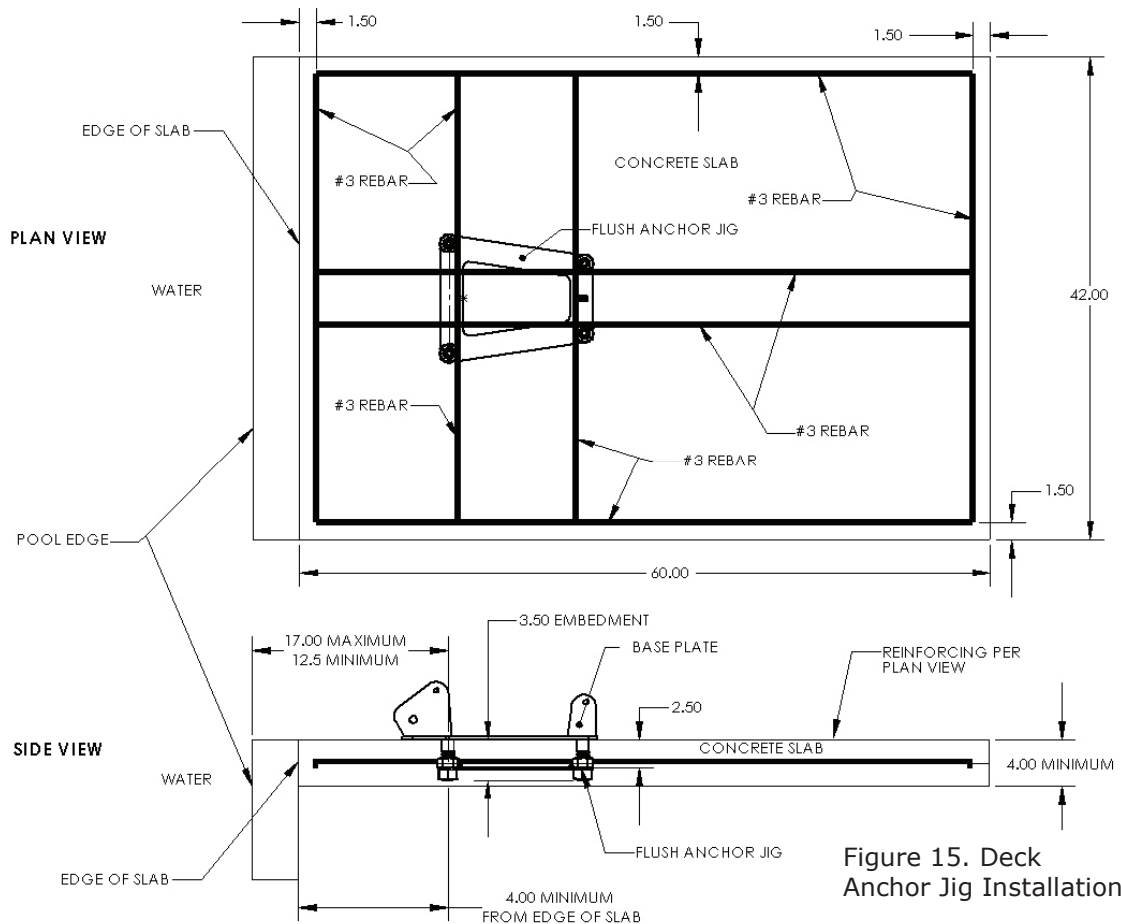

Figure 15. Deck Anchor Jig Installation
- Slab dimensions should be at least 42" X 60" X 4", see **Figure 15** above.
4. Install the anchor jig and reinforcing rods per **Figure 15**.